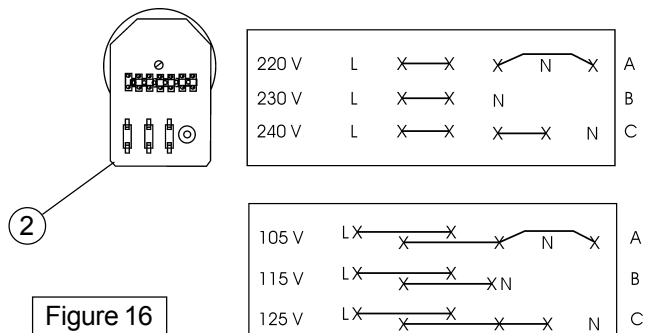

Figure 16
- Check the transformer (2) tapping for the correct configuration, figure 16. (Machines are tapped for 230V or 115V depending on configuration)